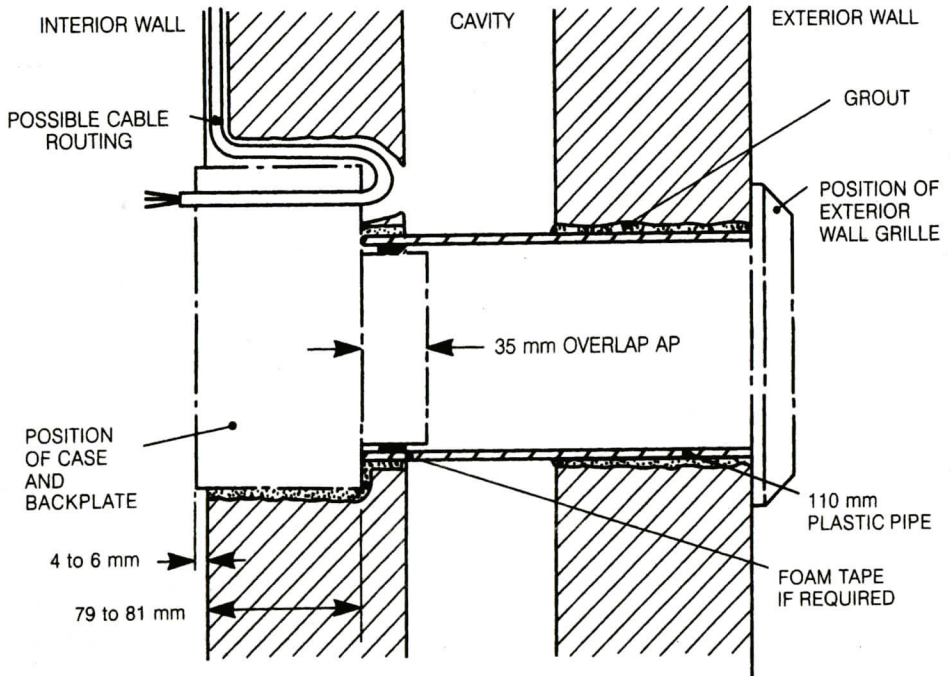

Fig. 7
The front face of the case should protrude by 4 to 6 mm from the wall surface if the bezel is to be used (see Fig. 7)
**6.4** Install the electricity supply cables (see Section 4 and Fig. 7), allowing 250 mm to protrude for making connections within the case.